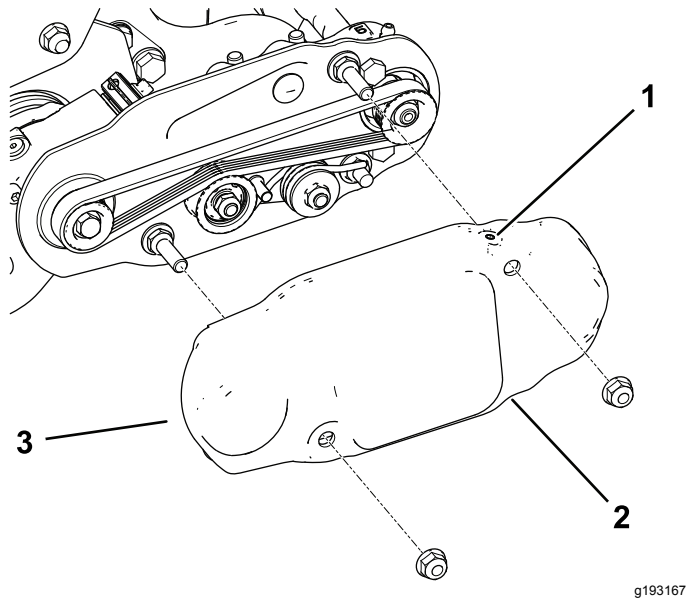

Figure 16
2. Slide the belt cover onto the mounting bolts and secure the cover with 2 flange nuts (Figure 16).